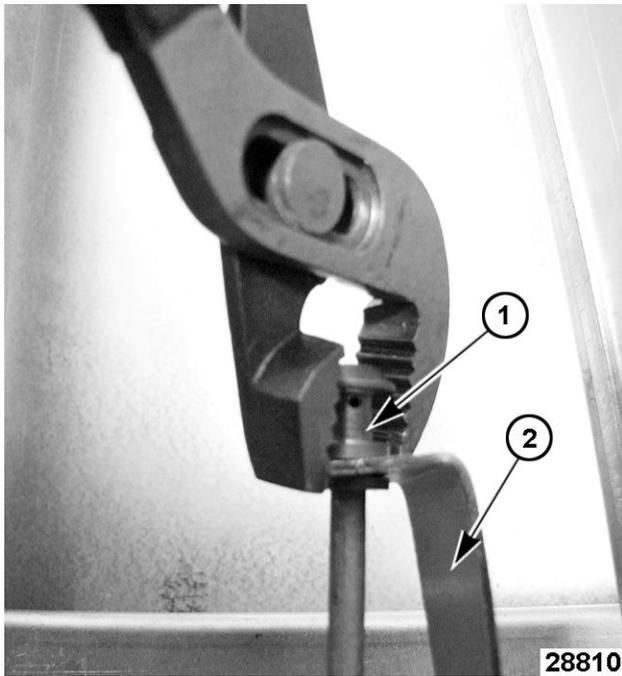

Fig. 79
6. Remove pilot tube assembly (1, Fig. 79) from pilot bracket (2, Fig. 79). Use pliers to separate as needed.